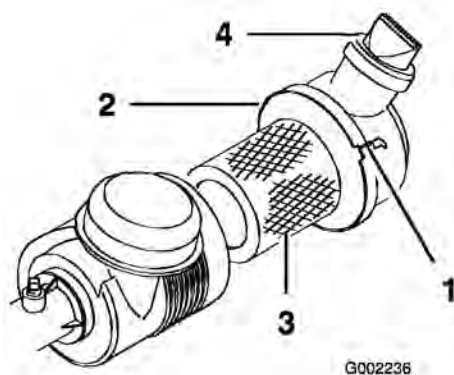

Figure 37
Check the air cleaner body for damage that could cause an air leak. Ensure that the dust cap is tightly sealed onto the air cleaner. Replace a damaged air cleaner body. Squeeze the valve (Figure 37) before each use to clear it of dust and debris. Service the air cleaner filter every 100 hours.
3. Loosen the air cleaner strap that secures the air cleaner cover to the air cleaner body (Figure 37) and separate the cover from the body.
7. Secure the straps (Figure 37).
4. Install the cover with the valve pointing down and secure the straps (Figure 37).